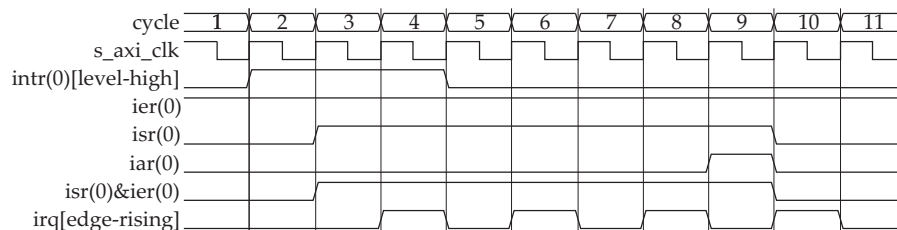

Figure 11: Input Intr - Level Sensitive (Active High) and Output Irq - Edge Sensitive (Rising)
1. Configured Input Interrupt (Intr) for Level sensitive (active High) and Output Interrupt Request (Irq) to Edge sensitive (rising) and is shown in Figure 11.